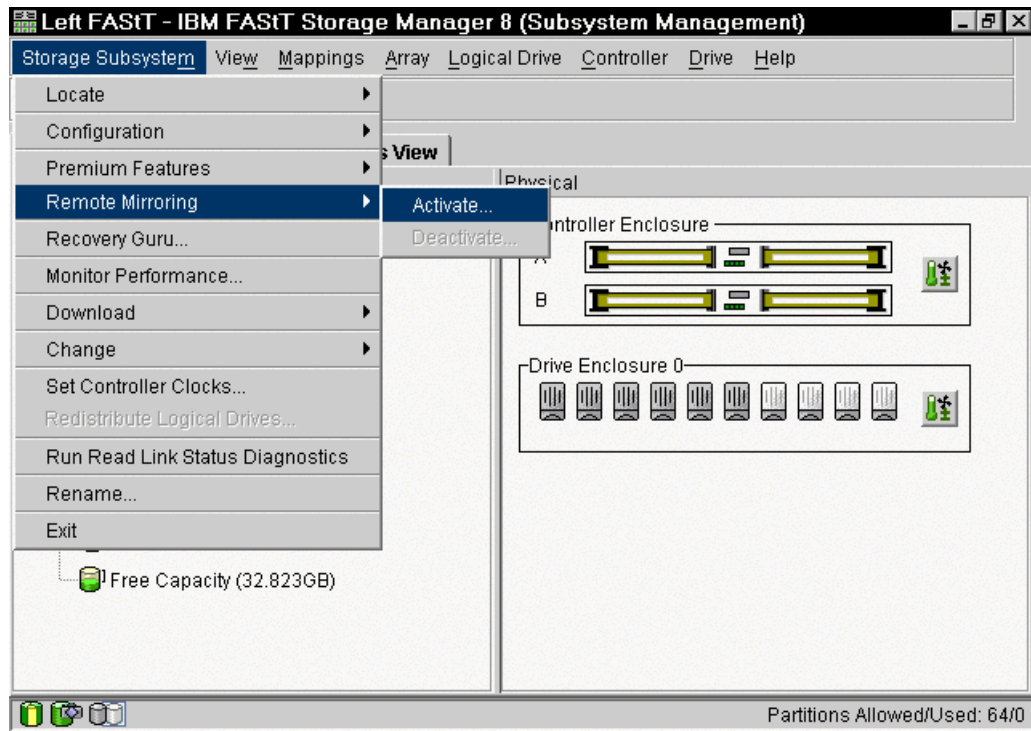

Figure 6-12 Activating RVM
1. From the Subsystem Management window, click **Storage subsystem-> Remote Mirror-> Activate** (see Figure 6-12).